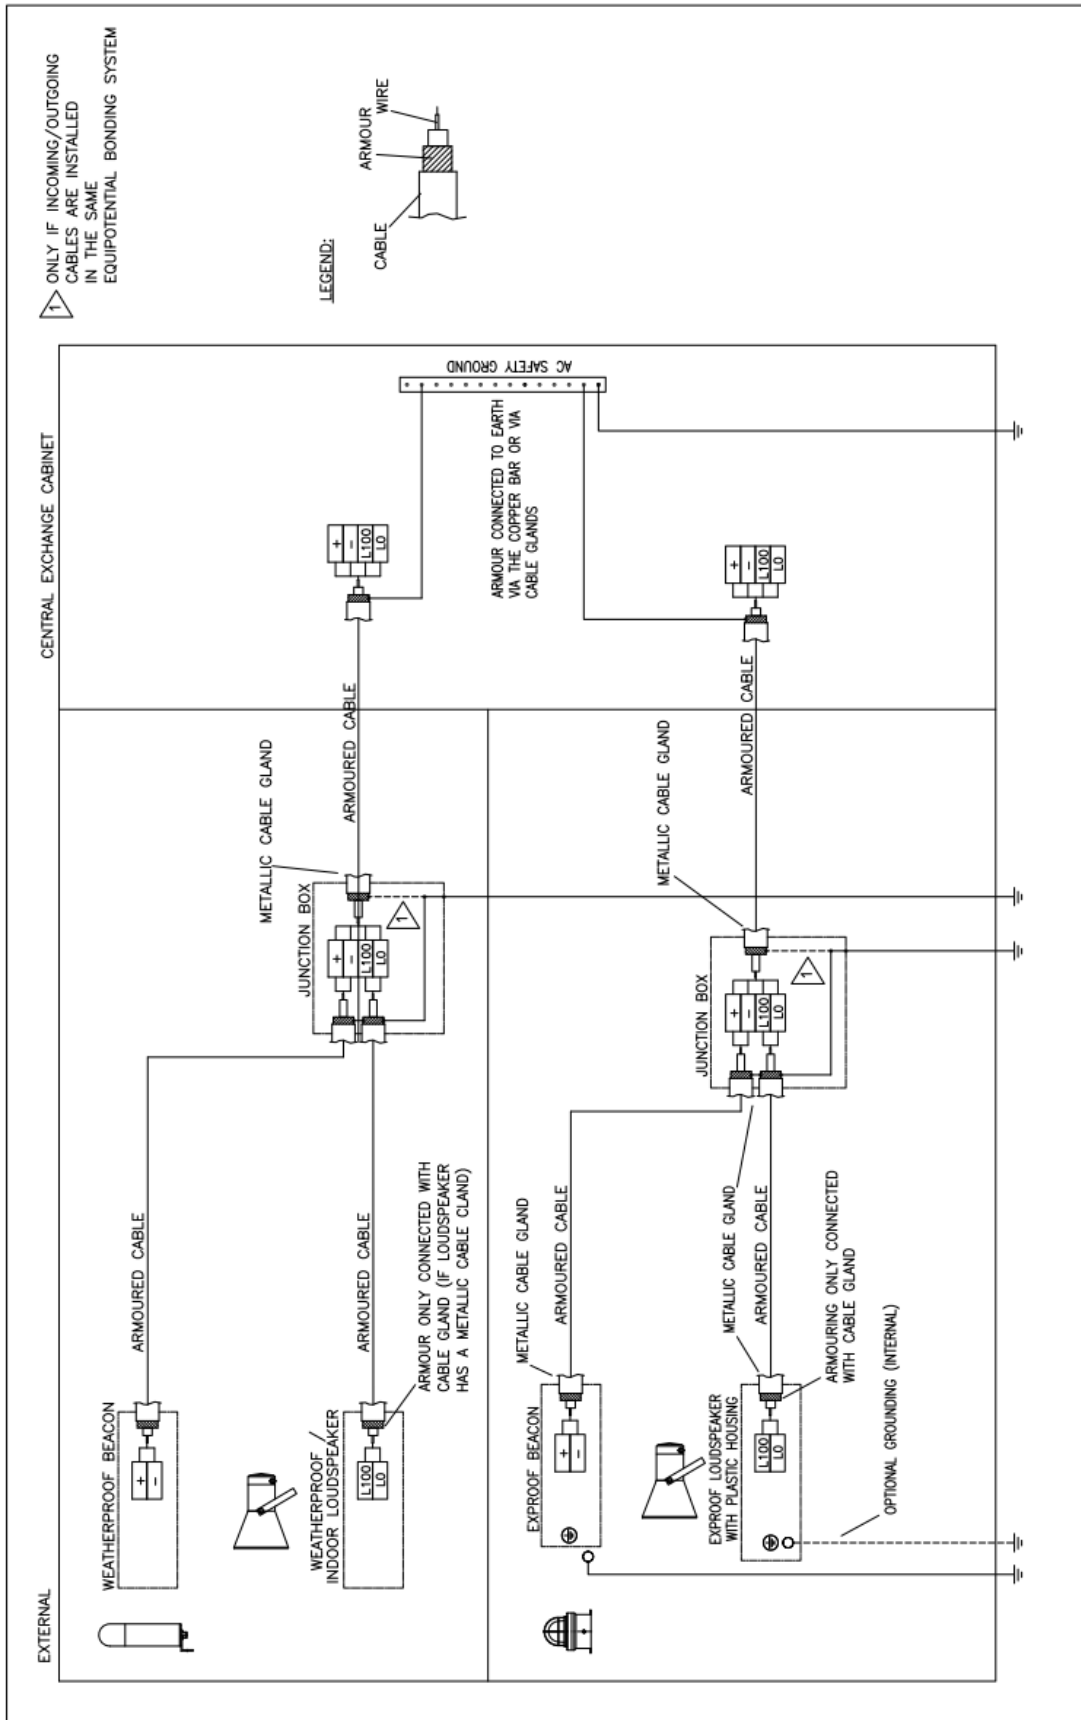

Fig. 6-2: Cabling example of speaker and flashing warning beacons
- Speakers and warning beacons for outdoor and Ex areas connected via armored cables (see Fig. 6-2, page 18).